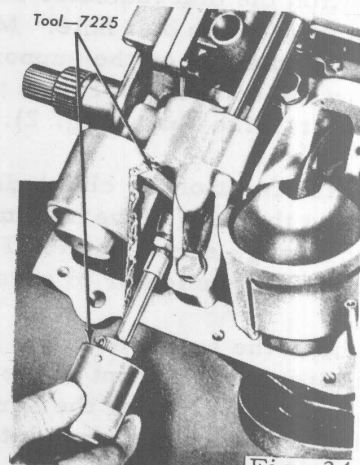

Fig. 34
- ☒ Using the front band adjusting wrench, insert a  $\frac{1}{4}$ " spacer between the lever and the stem (Fig. 34). Tighten the screw until the ratchet overruns.